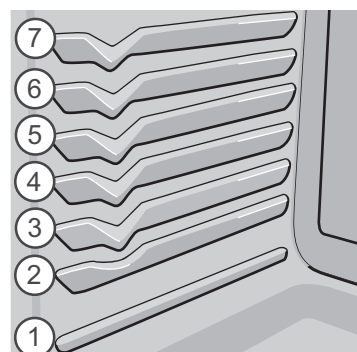

Figure 10: Oven rack positions
- For best results when baking cakes using two oven racks, place racks in positions 3 and 6 (See Figure 10).